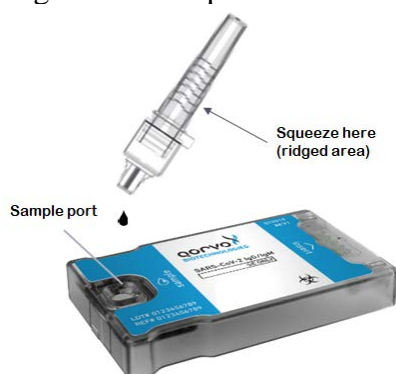

Figure 3: Specimen loading
8. Use the dropper cap to dispense 5 drops of processed sample into sample port (Figure 3). The sample will enter the cartridge by capillary action. Allow sufficient time for the leading edge of the sample to draw level with the “Sample Fill” line on the cartridge label.